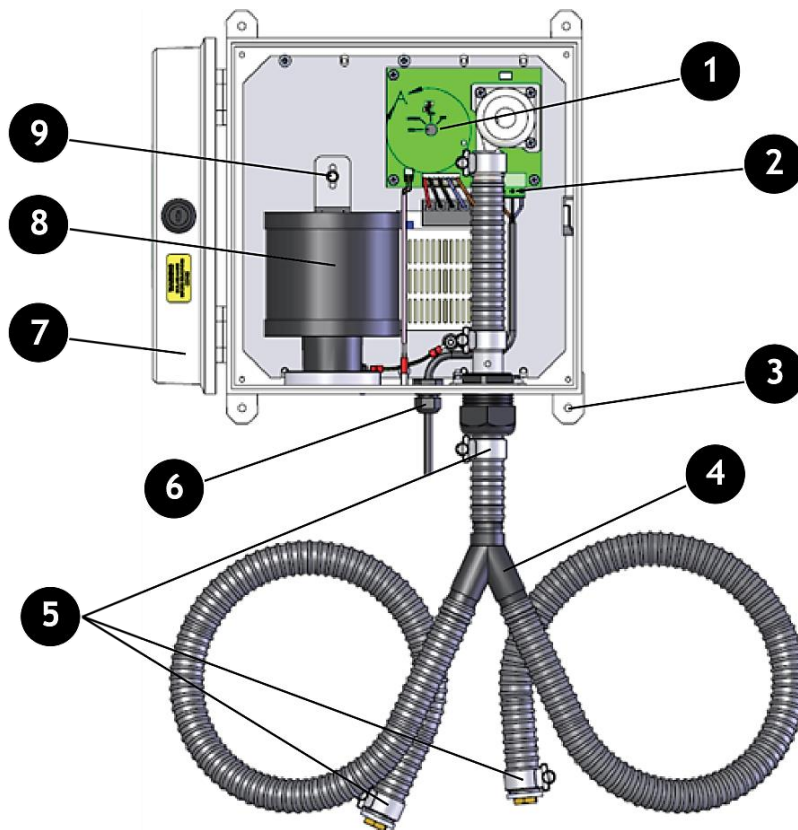

Figure 5: Wall-mounted Blower Unit (ACCAIR-B-Y).
The small purge blower is designed to be wall-mounted with the air purge and power connections pointing downwards (see items 4 and 6, **Figure 5** below). Four mounting feet are supplied to enable easy fitting. Two 10m lengths of flexible blower hose are supplied as standard. Using the Y-splitter with ¼" BSP connections, the hoses attach directly to provide purge air to both the Tx and Rx. Ensure that the distance from the purge blower to the Tx/Rx is less than 10m to allow easy connection.
The filter is a replaceable part. To remove the filter, slacken the screw on the filter bracket (see item 9, **Figure 5** below). For more information and technical data, consult the small blower unit manual (see page **11**).
1. Referring to **Figure 5** above, connect the purge blower to the sensor head by connecting the supplied straight tubing section (2x 72 mm/2.8”) to the air purge inlet on each of the sensor enclosures.